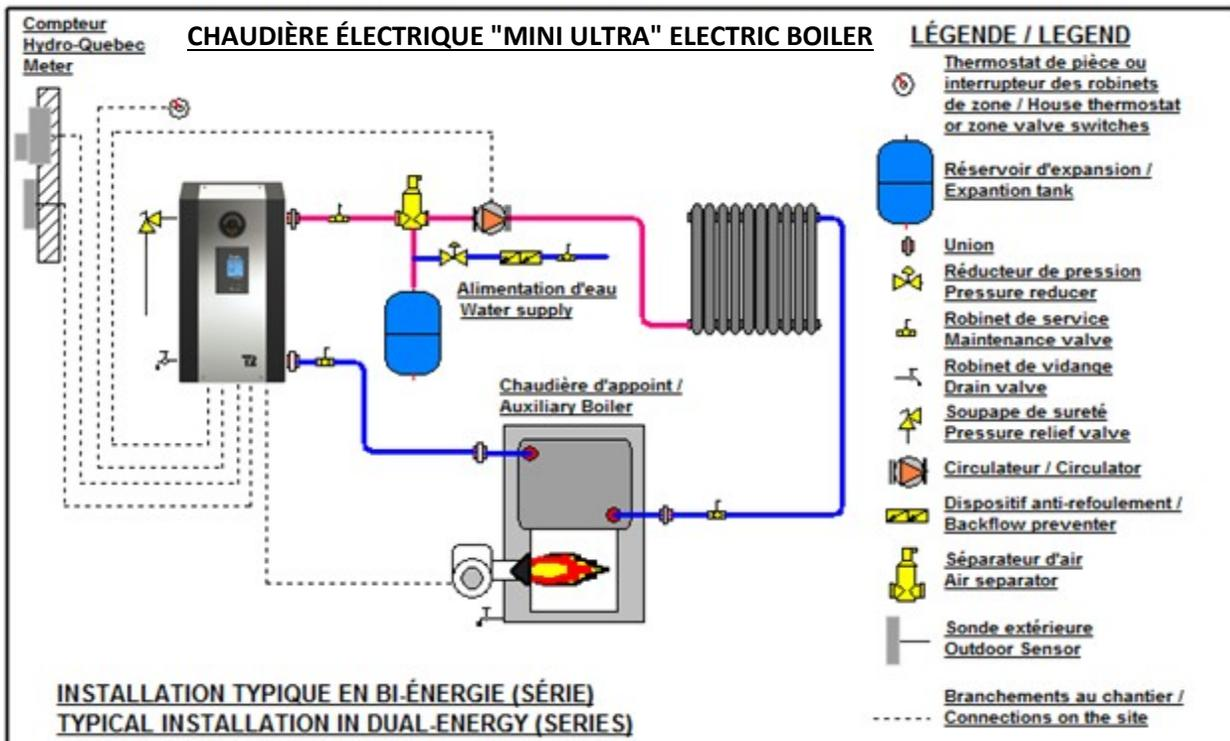

Figure 6 : Typical installation for dual-energy in series (USA models only)
N.B.: Make sure to select the appropriate port A, B and AB when making the connection of the piping (see fig.6)